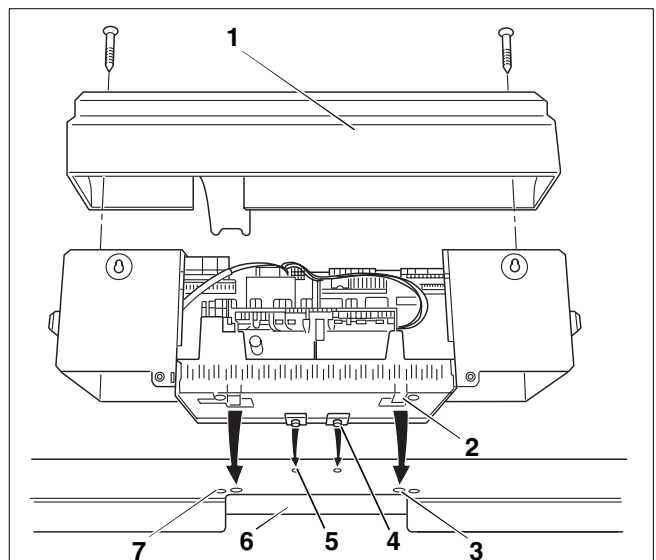
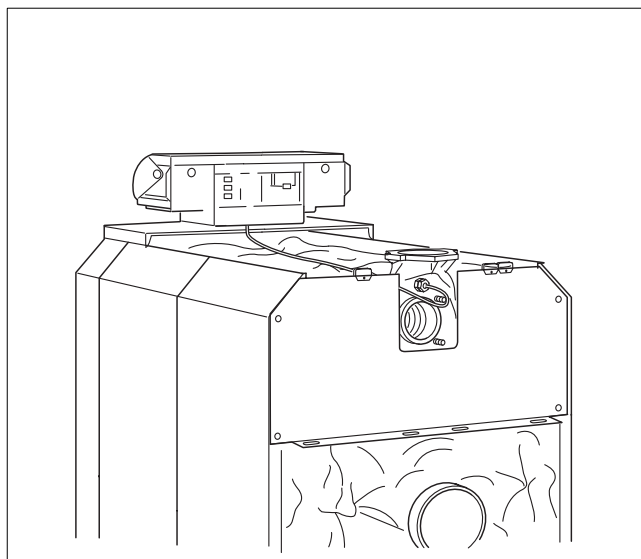

Fig. 58 Assembly – Fitting control panel
Fig. 63 Boiler with control panel fitted
Fig. 58 shows the control panel and front cover "A" from the rear.
- Unfasten the two screws holding the case (Fig. 58, **ref. 1**) covering the terminals and lift the case to remove it.
- Fit the control panel. Insert the lugs at the front of the control panel (Fig. 58, **ref. 4**) into the oval holes (Fig. 58, **ref. 5**) in the front cover of the boiler. Pull the control panel forward and then tilt it down and back. The hooks at the rear (Fig. 58, **ref. 2**) should clip into the rectangular openings in the front cover (Fig. 58, **ref. 3**).
- On the left and right of the cable opening (Fig. 58, **ref. 6**) fasten the base of the control panel to the front cover with two self-tapping screws (Fig. 58, **ref. 7**).
- Fasten the case covering the terminals (Fig. 58, **ref. 1**) to the base of the control panel with two self-tapping screws (Fig. 63).